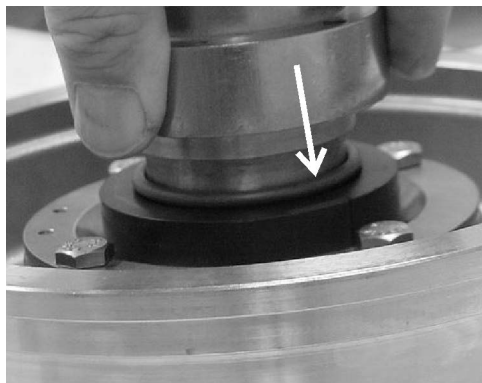

Figure 40 - Installing O-ring Using Spring Retainer
7. Place the O-ring (Figure 38, item F) on the shaft and use the spring retainer to push the O-ring into the rotary seal (Figure 40).